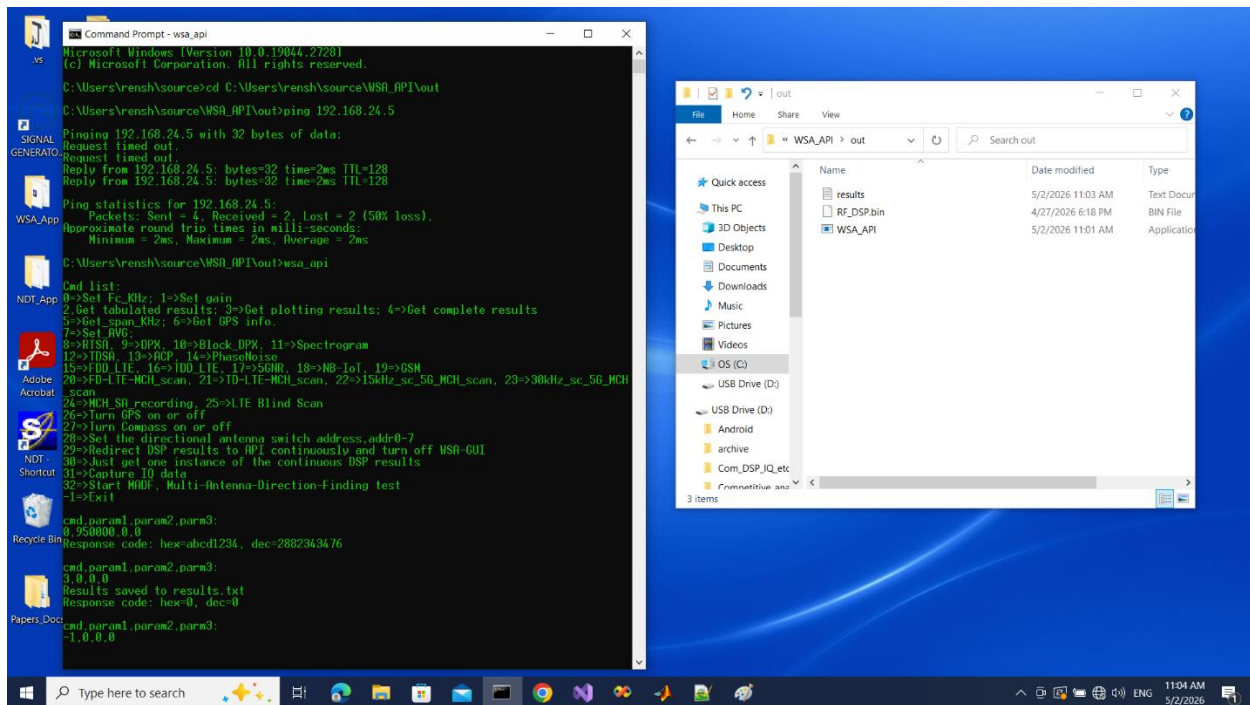

Figure 28 - Example of how to use the pre-compiled “WSA_API.exe” application.
3. Open a cmd prompt (the good old DOS command prompt), navigate to the "WSA_API\out" folder as shown below in Figure 28 and start the "WSA_API.exe" as shown. You can see that you can remotely change the center frequency and also get an instance of the spectrum analyzer results.
The “results.txt” file shown in Figure 28 at the right and obtained via command “3,0,0,0” at the left contains readable data array (corresponding to spectrum in unit of dBm) as shown below: